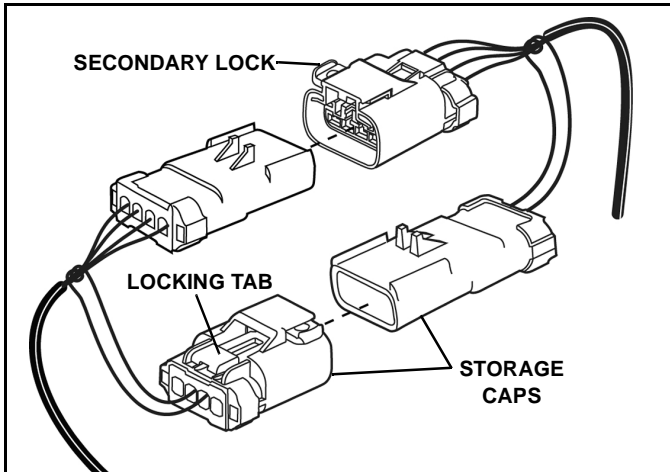

Figure 1-33
11. Disconnect the plow control harness connectors and replace the protective storage caps to prevent corrosion on the contacts. (See Figure 1-33).